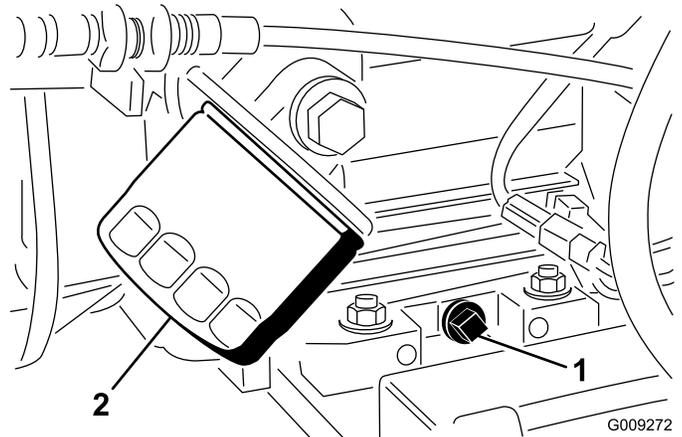

Figure 36
2. Remove the drain plug and let oil flow into a drain pan (Figure 36). When the oil stops, install the drain plug.
3. Remove the oil filter (Figure 36).